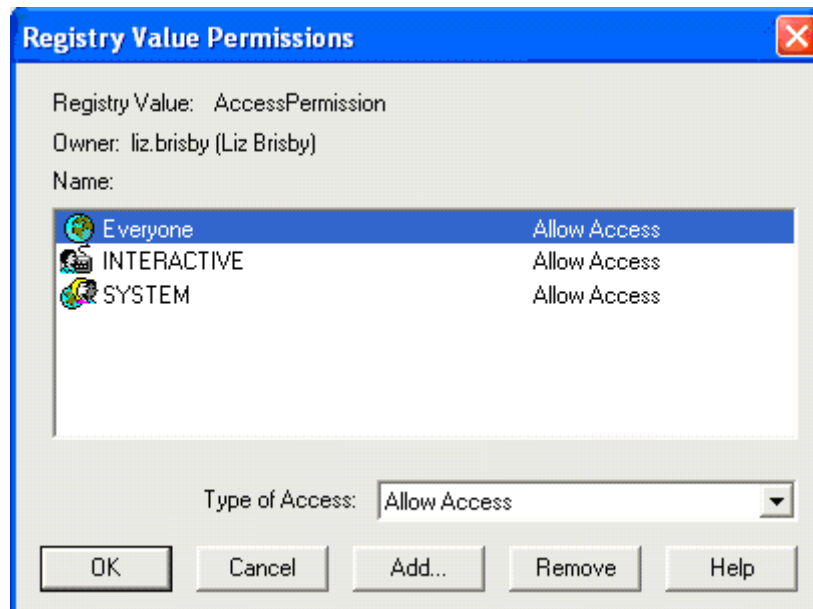

Figure 52 - Registry Value Permissions Window
8. The **Registry Value Permissions** window (Figure 52) appears.